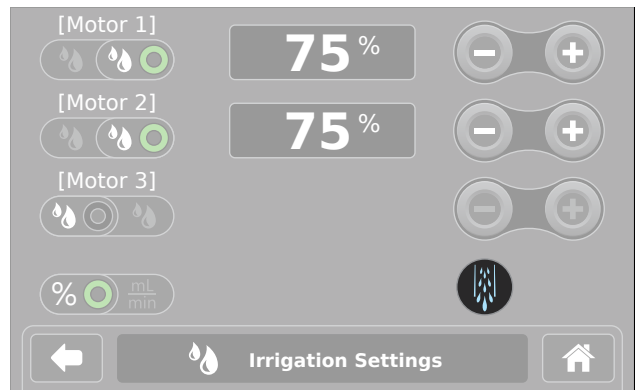

Figure 19 – Irrigation Settings (Flush)
3. Touch and hold  (**Flush**) until lodged debris is removed (Figure 19).